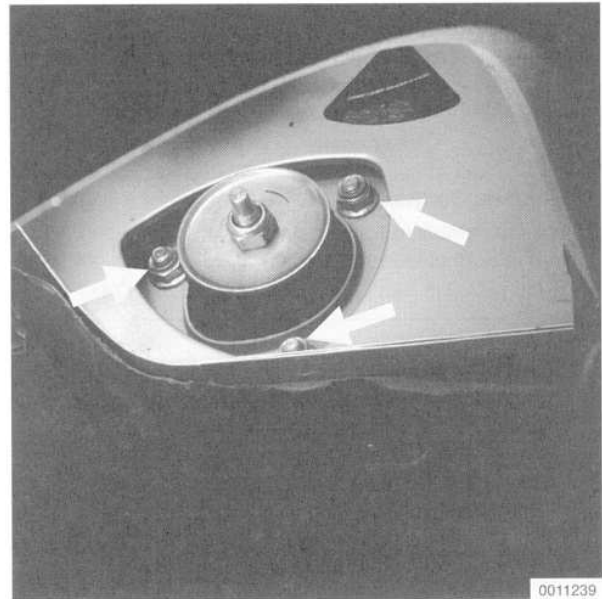

Fig. 4. Rear strut upper mounting nuts (arrows).
6. Remove the strut upper mounting nuts. See Fig. 4.